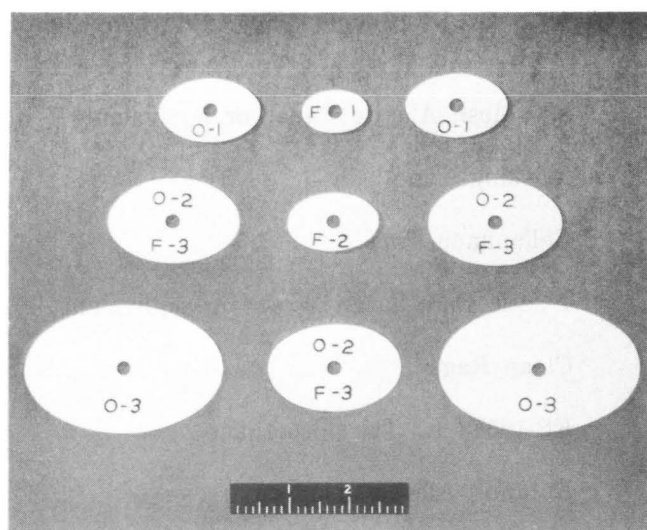

Fig. 6—Corresponding Overlay and Filler Patches
4.10 Take the overlay patch corresponding to the filler patch (Fig. 6 and 7) used as a pattern in 4.08 and align it parallel to the cutout so it overlaps the edges uniformly. Scribe *very lightly* or draw with a pencil the outline of this patch on the cover. Apply strips of masking tape in such a manner as to form a protective band on the weather cover 1/8 to 1/4 inch outside the scribed area.